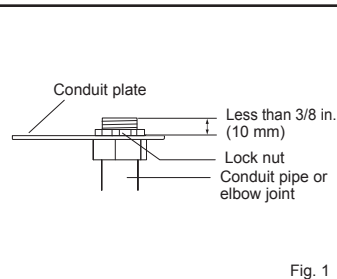
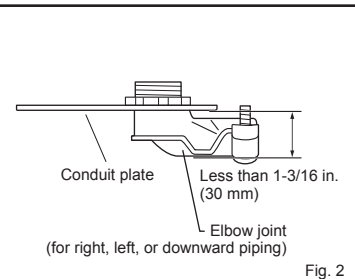

Fig. 1
Fig. 2
- 5) Attach conduit pipe (for rear piping) / elbow joint (for right, left, or downward piping) to conduit plate with lock nut. The thread of the installed conduit pipe / elbow joint appearing inside should be less than 3/8 in. (10 mm). (Fig. 1) Elbow joint should appear less than 1-3/16 in. (30 mm) outside. (Fig. 2)
- Pull out the drain cap at the back right of the indoor unit. (Fig. 1)
- Pull out the drain hose at the back left of the indoor unit. (Fig. 2)